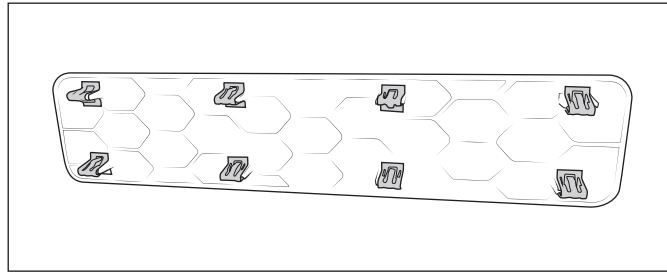

Figure 17
3. Install the metal retainer clips to the tabs on the AEV Step Pad (fig. 17), then clip Step Pad into the Center Section.